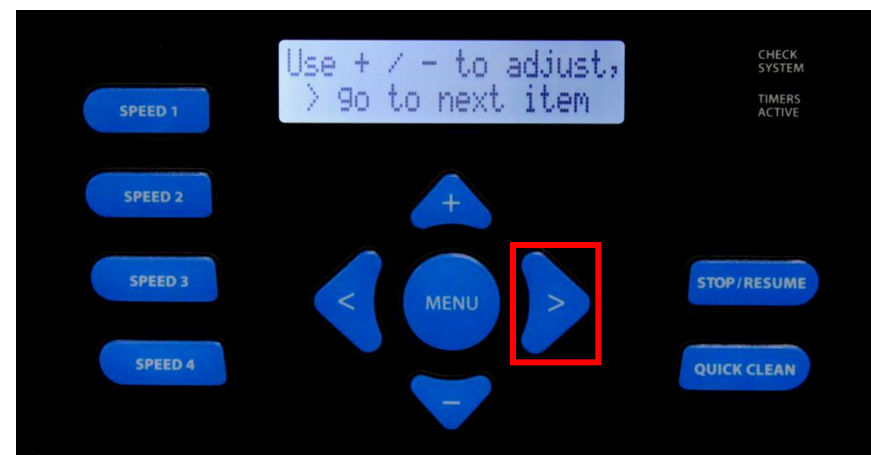

Figure 28
5. On the next screen it will tell you how to use the  &  buttons to adjust, and the  to go to the next item (fig 28). Press the  button to continue.